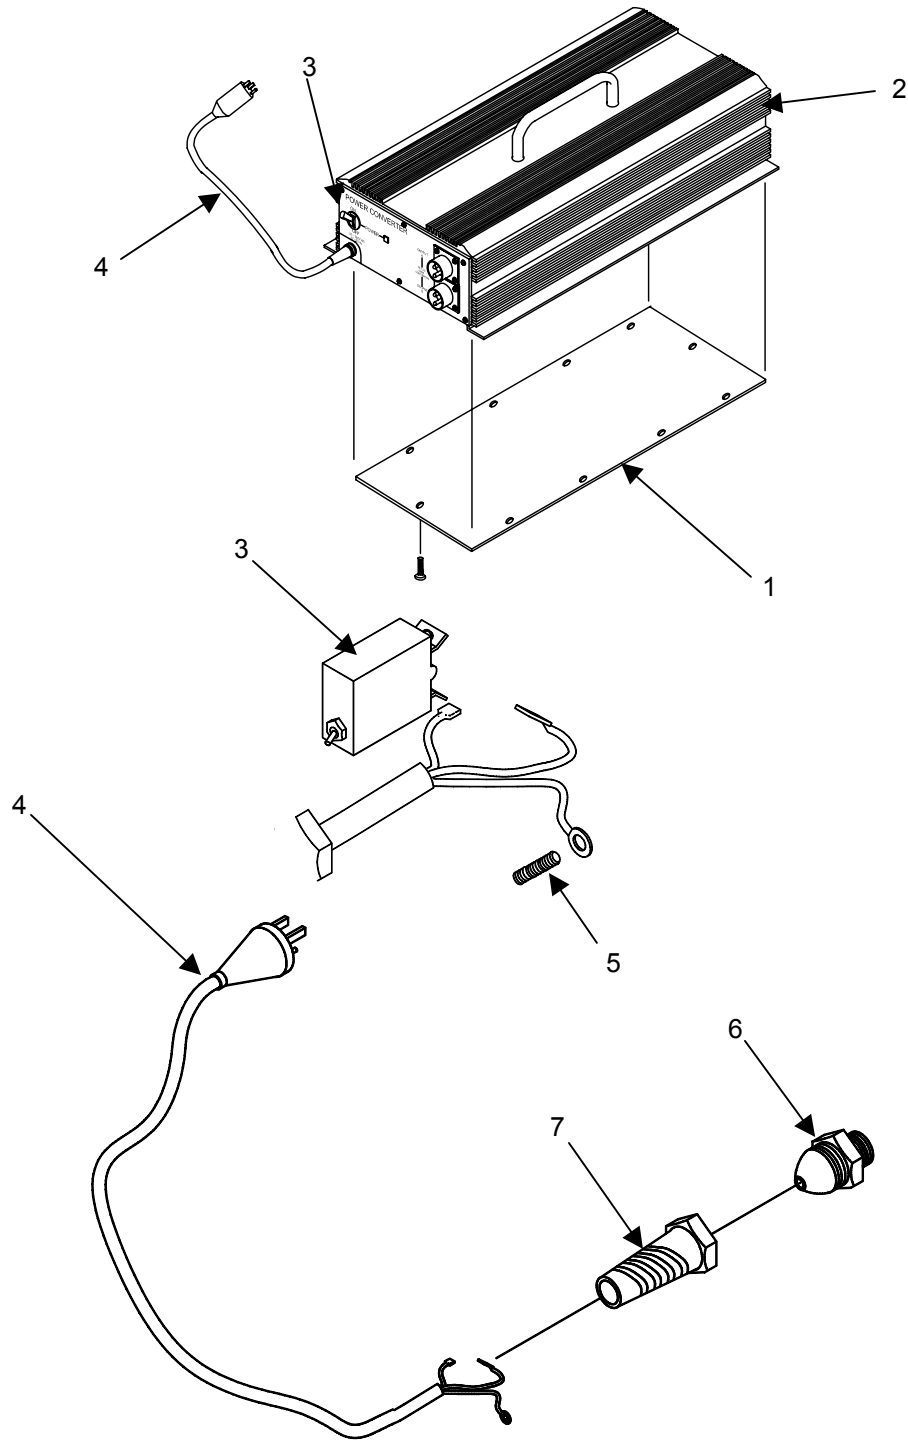

Figure 7. Replace the Power Cord (MS0160)
1. Remove the screws and lockwashers that secure the bottom cover (**figure 7, item 1**) of the power converter (**figure 7, item 2**).
2. Remove the main power switch (**figure 7, item 3**) as described above.
3. Take note of the color of the power cord (**figure 7, item 4**) wires and where they are connected to ensure that the cord is reconnected properly. Tag wires as necessary (one lead has been disconnected in the removal of the main power switch).
4. Tag and disconnect the remaining BLUE power cord (**figure 7, item 4**) wire.
5. Locate and remove the hex nut on the grounding stud (**figure 7, item 5**) and remove the power cord (**figure 7, item 4**) ground wire.
6. Loosen and remove the plastic hex nut (**figure 7, item 6**) on the inside of the power converter front panel that secures the power cord strain relief (**figure 7, item 7**).
7. Pull the entire power cord assembly (**figure 7, item 4**) out of the power converter (**figure 7, item 2**).
8. Remove the strain relief (**figure 7, item 7**) from the power cord (**figure 7, item 4**).
9. Install the strain relief (**figure 7, item 7**) over the replacement power cord (**figure 7, item 4**).
10. Insert the power cord (**figure 7, item 4**) and strain relief assembly (**figure 7, item 7**) through the hole in the front panel of the power converter (**figure 7, item 2**). Secure with plastic strain relief hex nut (**figure 7, item 6**).
11. Install the power cord ground wire on the grounding stud (**figure 7, item 5**) and secure with the hex nut.
12. Connect the BLUE power cord (**figure 7, item 4**) wire as tagged.
13. Reinstall the main power switch (**figure 7, item 3**) as described above.
14. Reinstall the bottom cover (**figure 7, item 1**) of the power converter (**figure 7, item 2**) and secure with screws and lockwashers.